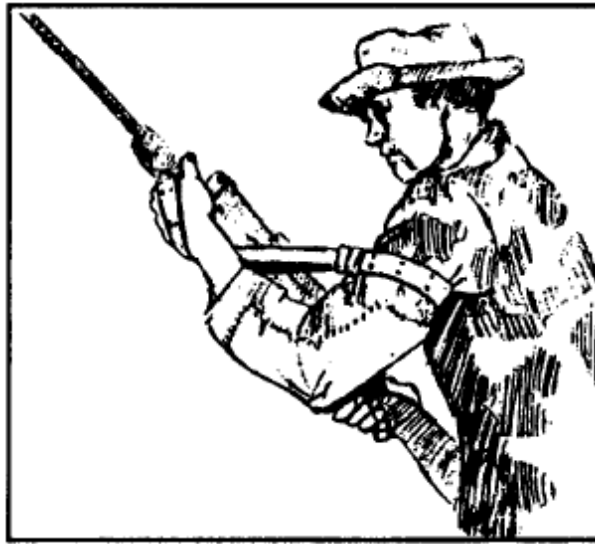

Figure 2-12. Proper placement of the sling.
(6) The sniper moves his nonfiring hand from the outside of the sling to the inside of the sling between the rifle and the sling. The sniper then grasps the forearm of the weapon, just behind the sling swivel with his nonfiring hand. He forces it outward and away from his body with the nonfiring hand (Figure 2-12).